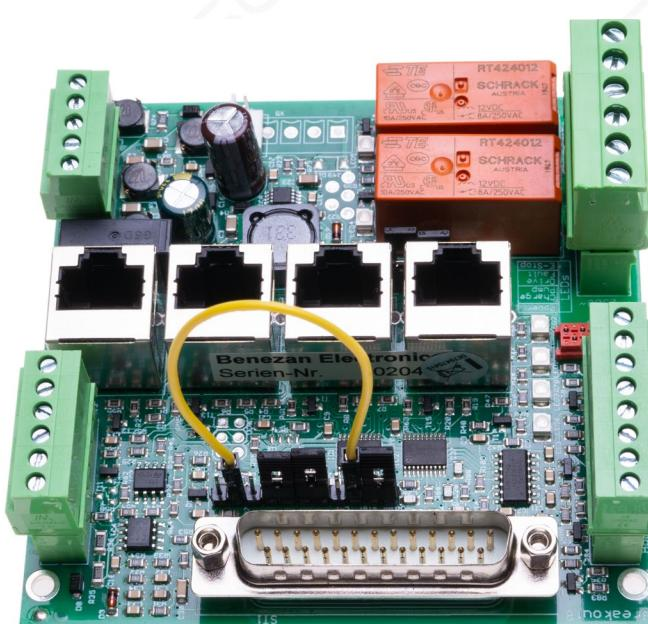

Fig. 10: Jumpers for use with EdingCNC
- The jumpers of the Advanced Interface Pro must be set as described on the next page in Figure 10.
- 2-9, 4-5, 6-7, 10-11 (see Fig. 10)